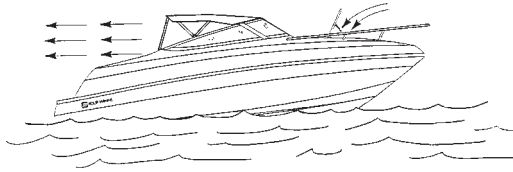

Figure H5: Desired air flow through the boat.
4. Opening and closing ports, hatches, doors, and windows may raise or lower CO levels on board a boat. See Figures H5 and H6.